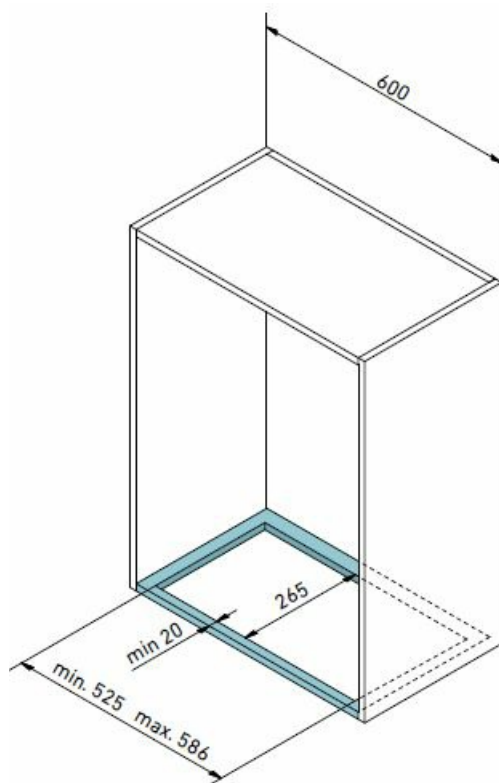

Fig. 5
- Installation of the product is shown in Figures 5 – 12. During installation, follow the general regulations concerning air extraction.